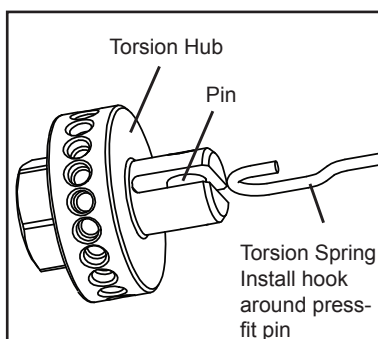

Fig. 9
15. Attach loop end of Torsion Spring to Torsion Hub pin location (Fig. 9).